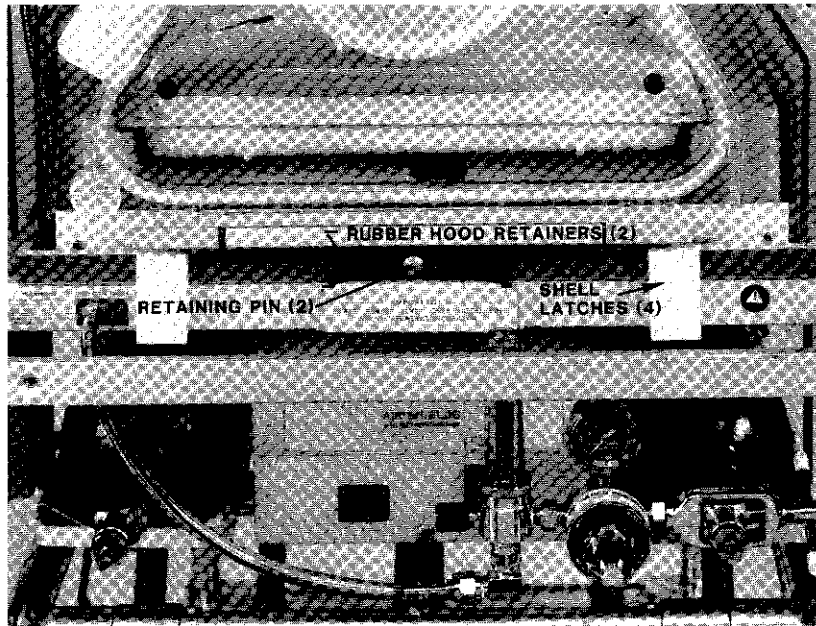

FIGURE 2.8 SHELL LATCHES AND RUBBER HOOD RETAINERS
2. CHECK SHELL LATCHES AND RUBBER HOOD RETAINERS. Check the shell latches and rubber hood retainers (Figure 2.8). All four latches should be properly secured and both rubber hood retainers should be free from cracks and intact.